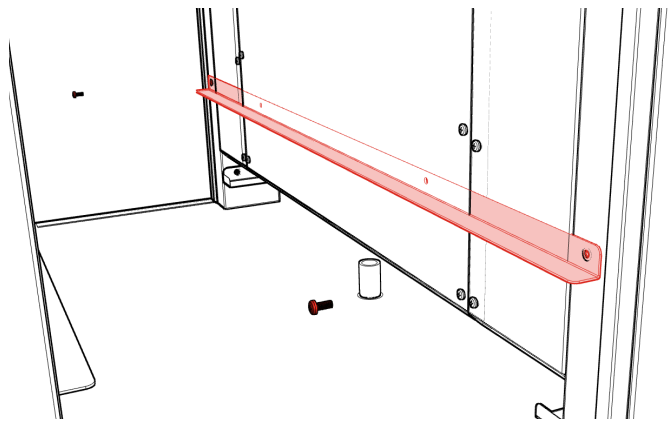

Fig. 11
3. Remove two (2) M5 × 12 screws on EACH side of evaporator module fastening rack support angles to refrigerator (Fig. 11).